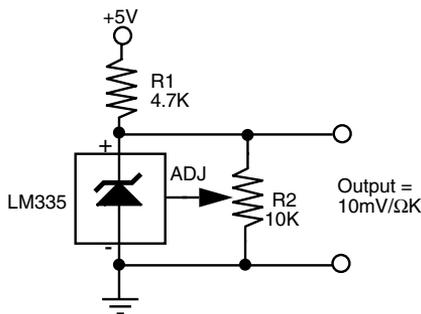

FIGURE 39.4 The basic wiring diagram for the LM355 temperature sensor.
Because the output of the smoke alarm detector is often an oscillating signal, there is no effective way to measure the peak voltage by using a volt-ohm meter. The meter will only show an average of the voltage provided by the circuit. If you are limited to using only a volt-ohm meter for your testing, for safety's sake add the 5.1-volt zener circuit as shown in Fig. 39.4. While this may be unnecessary in some instances, it will help protect your digital interface from possible damage caused by over-voltage from the smoke alarm circuit board.
Fig. 39.4 shows a basic but workable circuit centered around an LM355 temperature sensor. This device is relatively easy to find and costs under \$1.50. The output of the device, when wired as shown, is a linear voltage. The voltage increases 10 mV for every rise in temperature of 1° Kelvin (K).